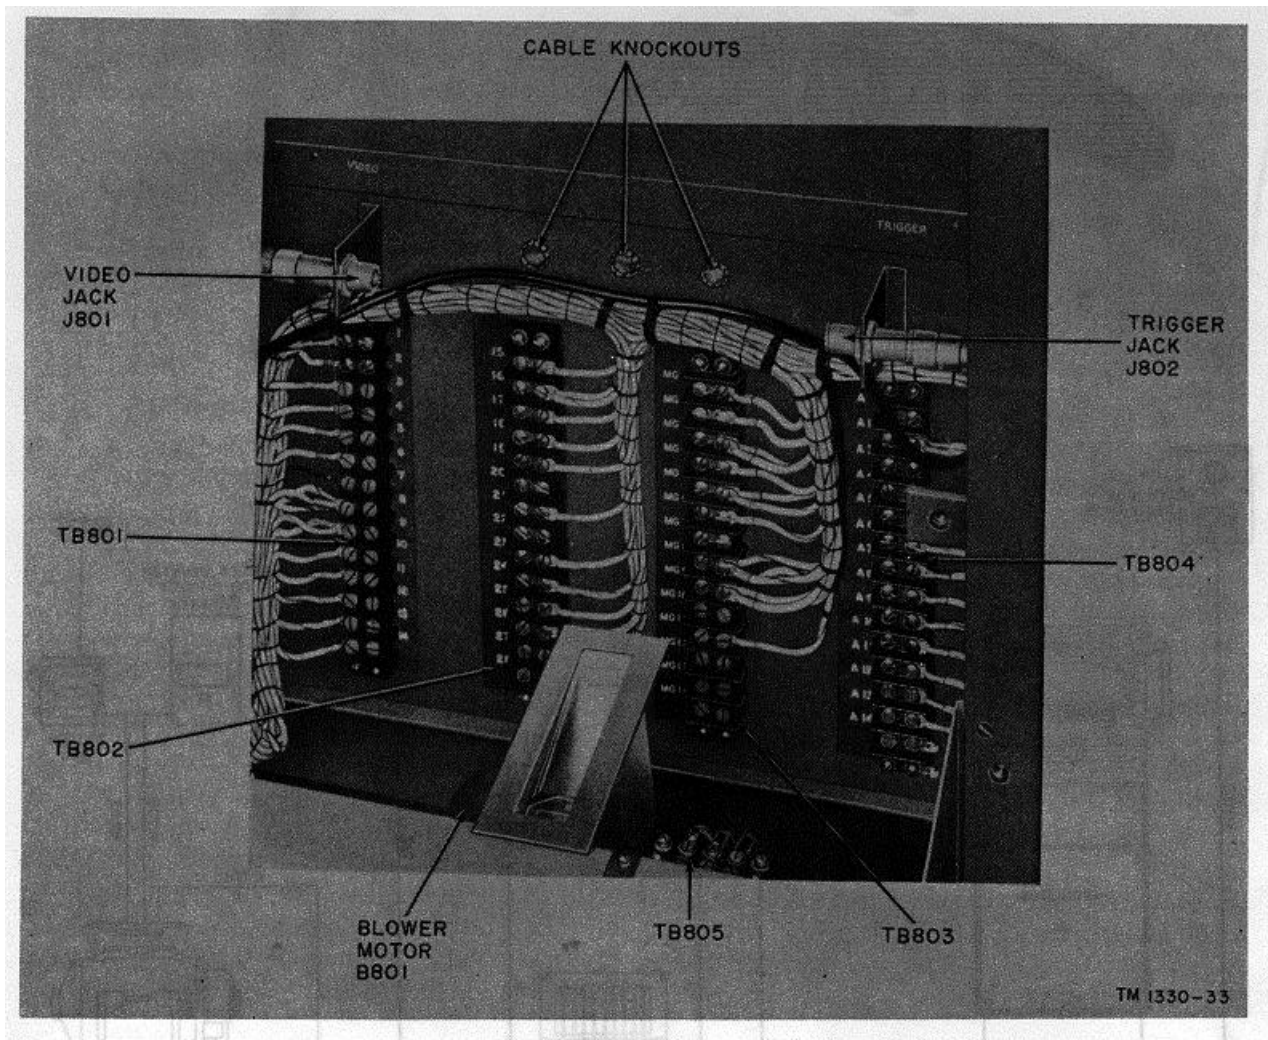

Figure 48. Receiver-transmitter terminal boards.
- (1) Connect 16 of the 19 conductors of cable W704 to terminal board TB801 (fig. 48) in accordance with the color code. Connect the remaining three conductors of cable W704 to terminal board TB802.
- b. Because of the physical location of the various units of the radar set, some of the alinement procedures described in this section require two men. Provisions are made in the equipment for communication between the units by means of a telephone system. The telephone handsets can be plugged into telephone jacks in the indicator (fig. 59), in the receiver-transmitter (fig. 48), and in the antenna (fig. 3).